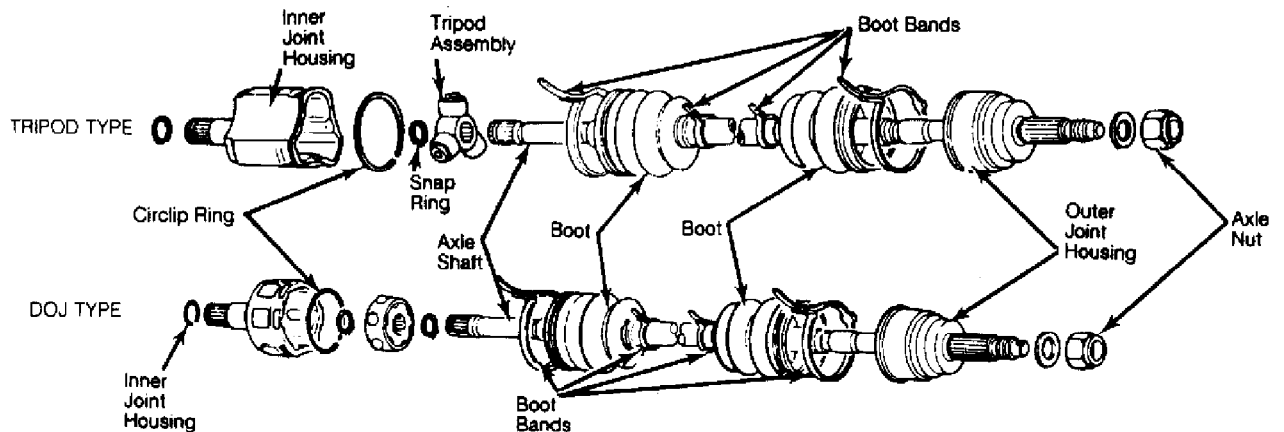

Fig. 2: Exploded View Of Axle Assemblies (DOJ & Tripod)
1) Place drive axle assembly in soft-jawed vise. Keep drive axle assembly clean during disassembly and reassembly. Remove CV joint boot bands, and slide boot away from CV joint housing. Index mark CV joint housing, inner race and drive axle shaft for reassembly reference. Using screwdriver, remove circlip ring from inner race groove in CV joint housing. See Fig. 2.